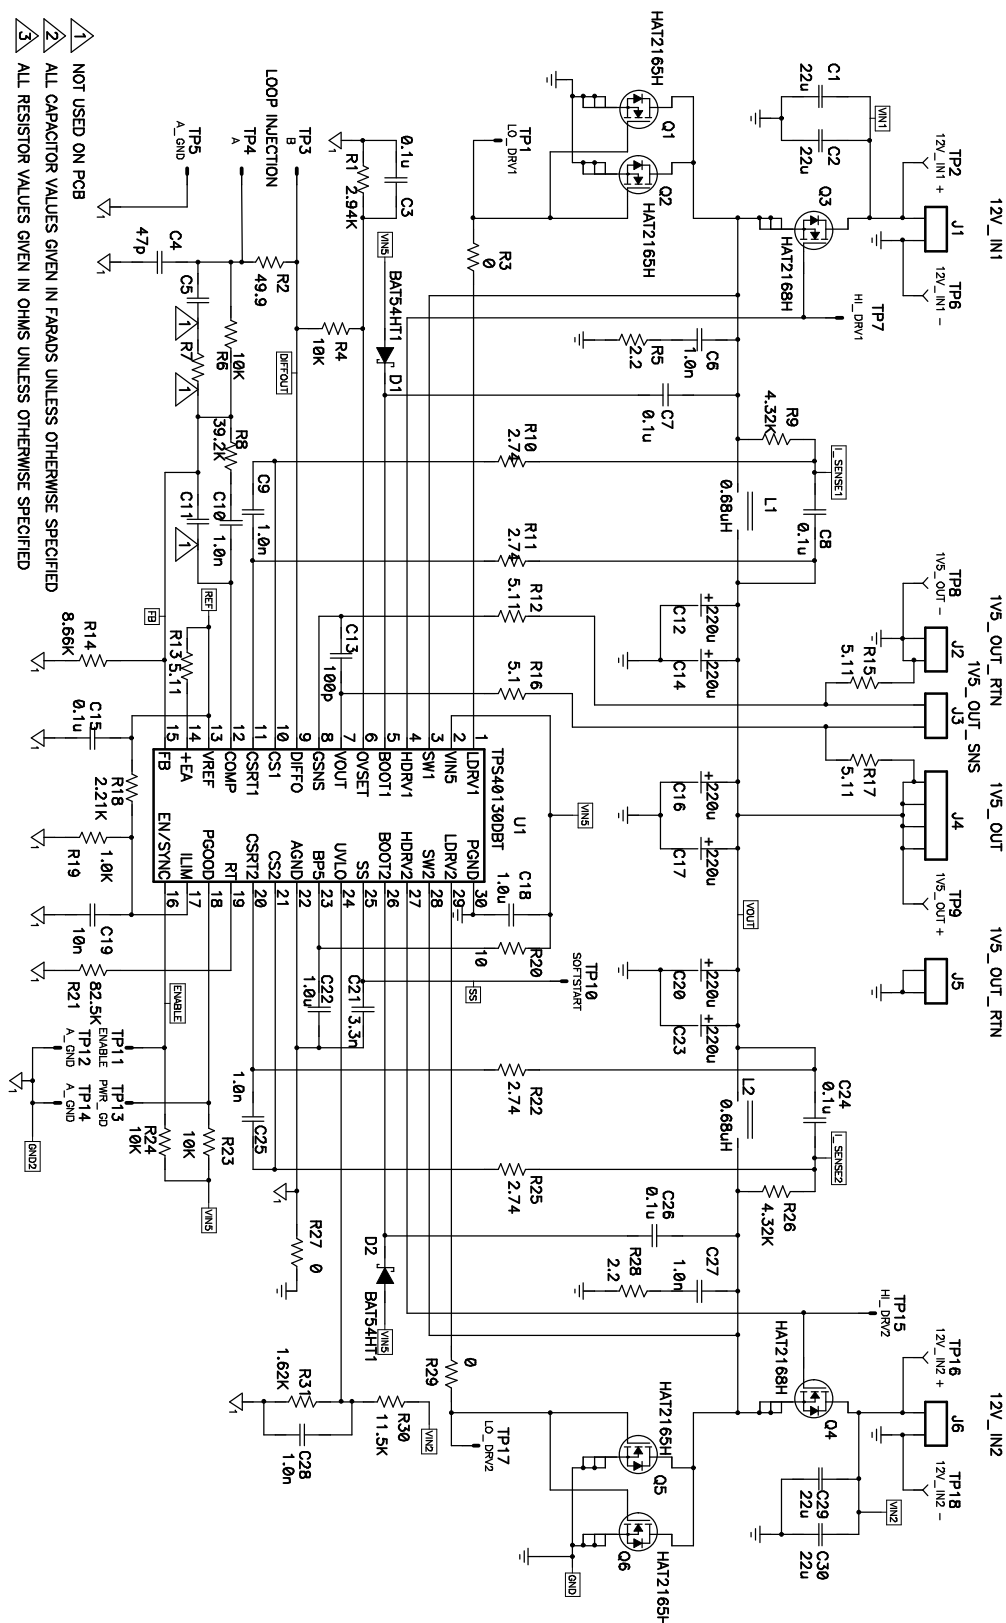

Figure 1. TPS40130EVM-001 Power Stage/Control Schematic
V_{12V_IN}: The input voltage source (V_{12V_IN}) should be a 0-V to 15-V variable dc source capable of 8.5 Adc. Connect V_{12V_IN} to J1 and J6 as shown in Figure 1.
5. Connect LOAD1 to J2 as shown in Figure 1. Set LOAD1 to constant current mode to sink 0 Adc before V_{12V_IN} is applied.